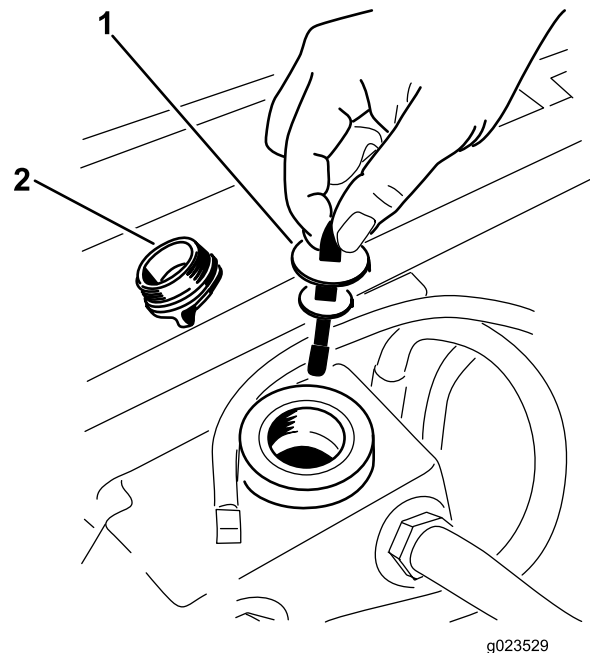

Figure 89
5. Remove the hydraulic fill cap (Figure 89) from the filler neck.
6. Remove the dipstick and wipe it with a clean rag (Figure 89).
7. Place the dipstick into the filler neck; then remove it and check level of fluid (Figure 89).